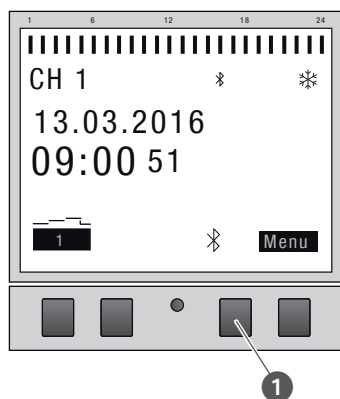

Fig. 18: Switching the Bluetooth connection on the plug-in timer on/off
1. To switch off the Bluetooth connection, press and hold the Bluetooth button (Fig. 18/①) on the plug-in timer for approx. 2 seconds.